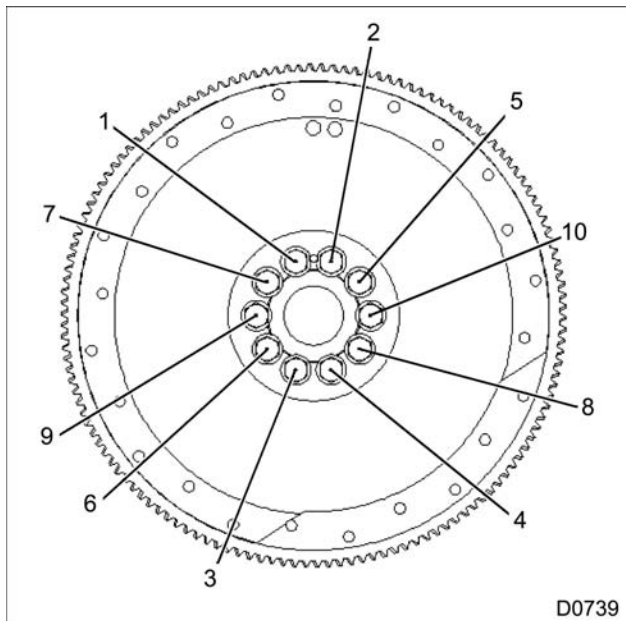

Figure 625 Typical flywheel torque sequence (typical)
3. Using an alternating pattern across the center, evenly tighten all flywheel bolts to the Special Torque (page 372) using the torque sequence illustration (Figure 625).
| Flywheel mounting bolts (all applications) new bolts only | 94 N·m (69 lbf·ft) flywheel torque sequence (Figure 625) |